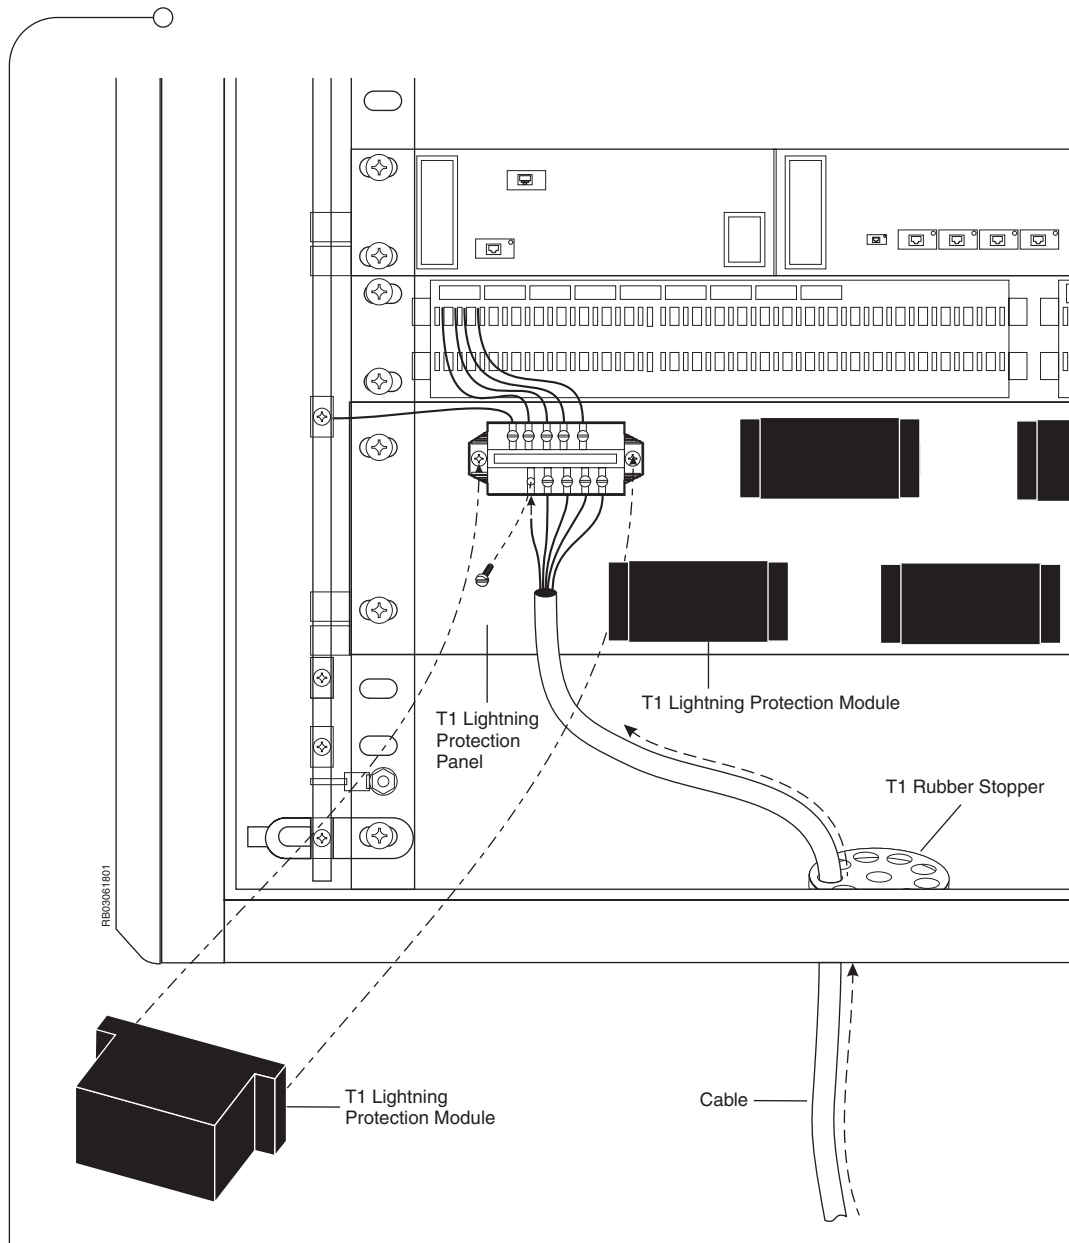

Figure 3.14 T1 Port Connection
4. Connect the T1 cable, as shown in Figure 3.14 on page 47.